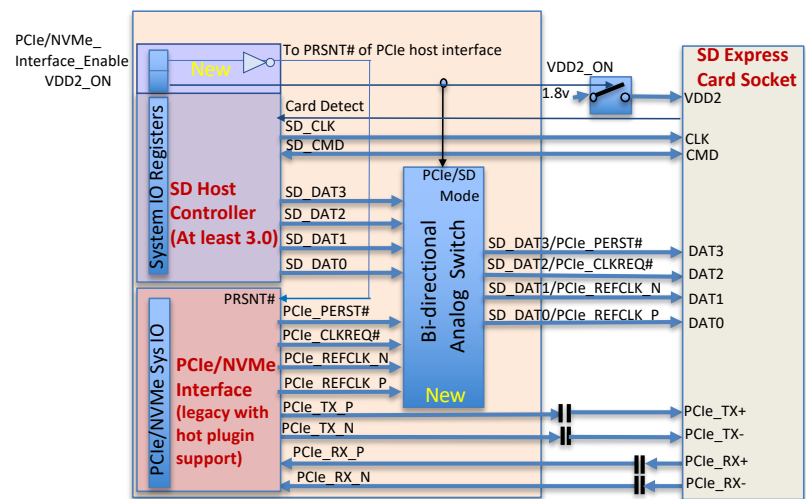
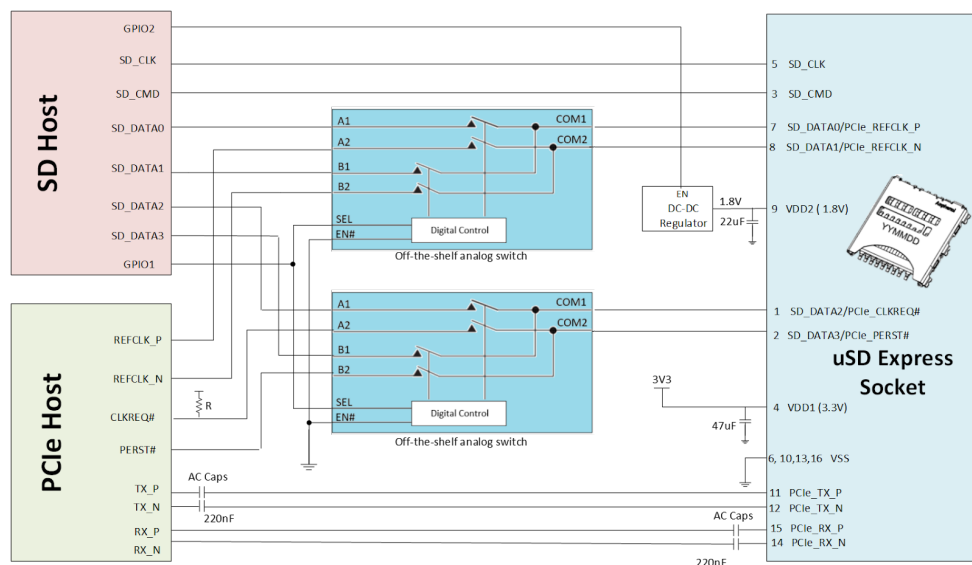
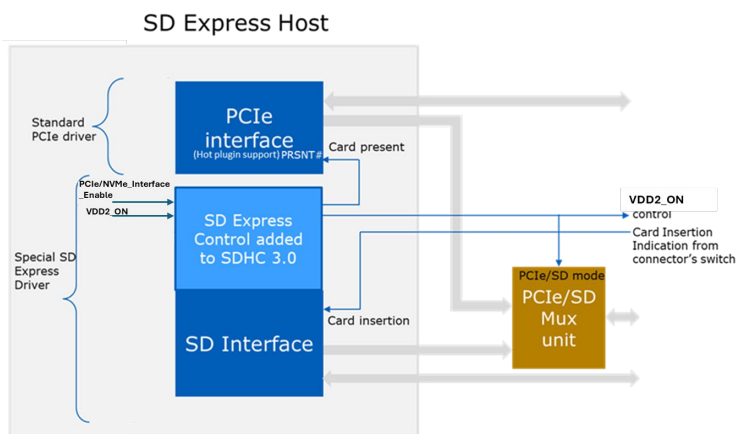
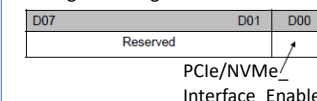

Figure 8 SD Express Host – Block Diagram
Figure 10 A Practical Example of Mux/De-Mux Circuit
Figure 9 Block Diagram of SD Express Host with New Control Lines
Figure 11 SD Host Controller Register Map with Added SD Express Support
The block diagram example of an SD Express host in Figure 8 shows a case in which host vendor, or chipset vendor, utilizes the existing PCIe host IP that supports hot plugin with card presence detect PRSNT# input and SD Host Controller with at least SD Host Controller (SHC) V3 specification interface and minimal addition of two new control registers to implement a unified SD Express card interface.
Figure 10 shows a straightforward example of usage of external discrete component serving as Bi-Directional Analog Switch. Any type of solution that will meet the SD Express interface requirements is acceptable.
- Figure 10 shows a typical host board design circuit used in a host product with an SD interface and PCIe interface separated, along with external components for the front-end SD Express.
Additions to existing SD Host Controller that enable the solution shown in Figure 8 are given below. Figure 11 shows the lower range of the SD Host Controller Register Map (as provided in detail in the SD Host Controller Specification available for SDA members on the SDA Website). The newly proposed register bit locations dedicated to SD Express are shown in Figure 9 as well. Additional details on the added register bits are as follows:
Before discussing the actual drivers - a flow chart of two possible initialization processes as defined in SD specification is shown in a simplified manner. Figure 10 shows a case where the SD Express host initializes the SD Express card through the PCIe interface. If the initialization fails, it defaults to SD interface. Figure 11 shows a case where the SD Express host initializes the SD Express card first through SD interface, checking if the card supports PCIe then switches to PCIe mode.